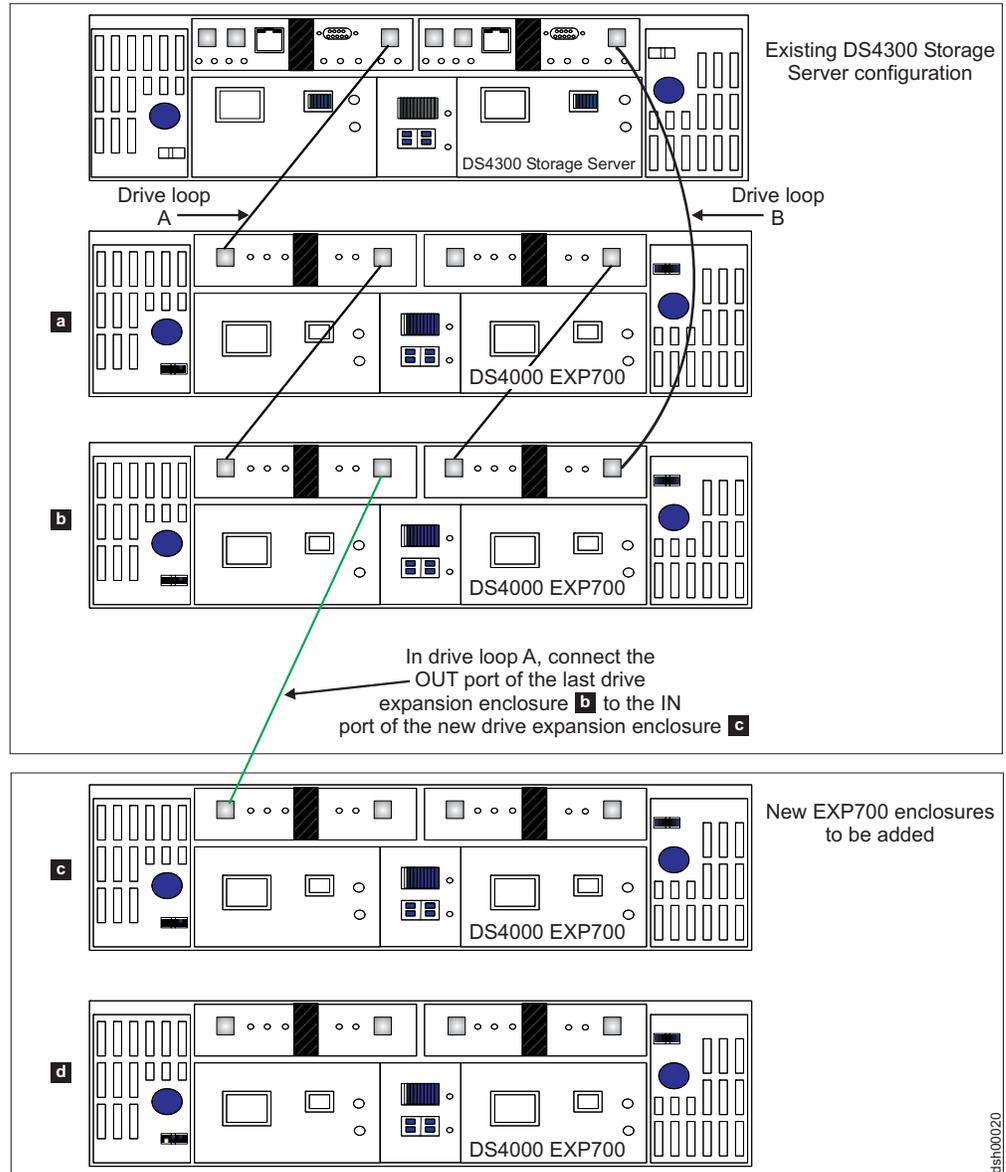
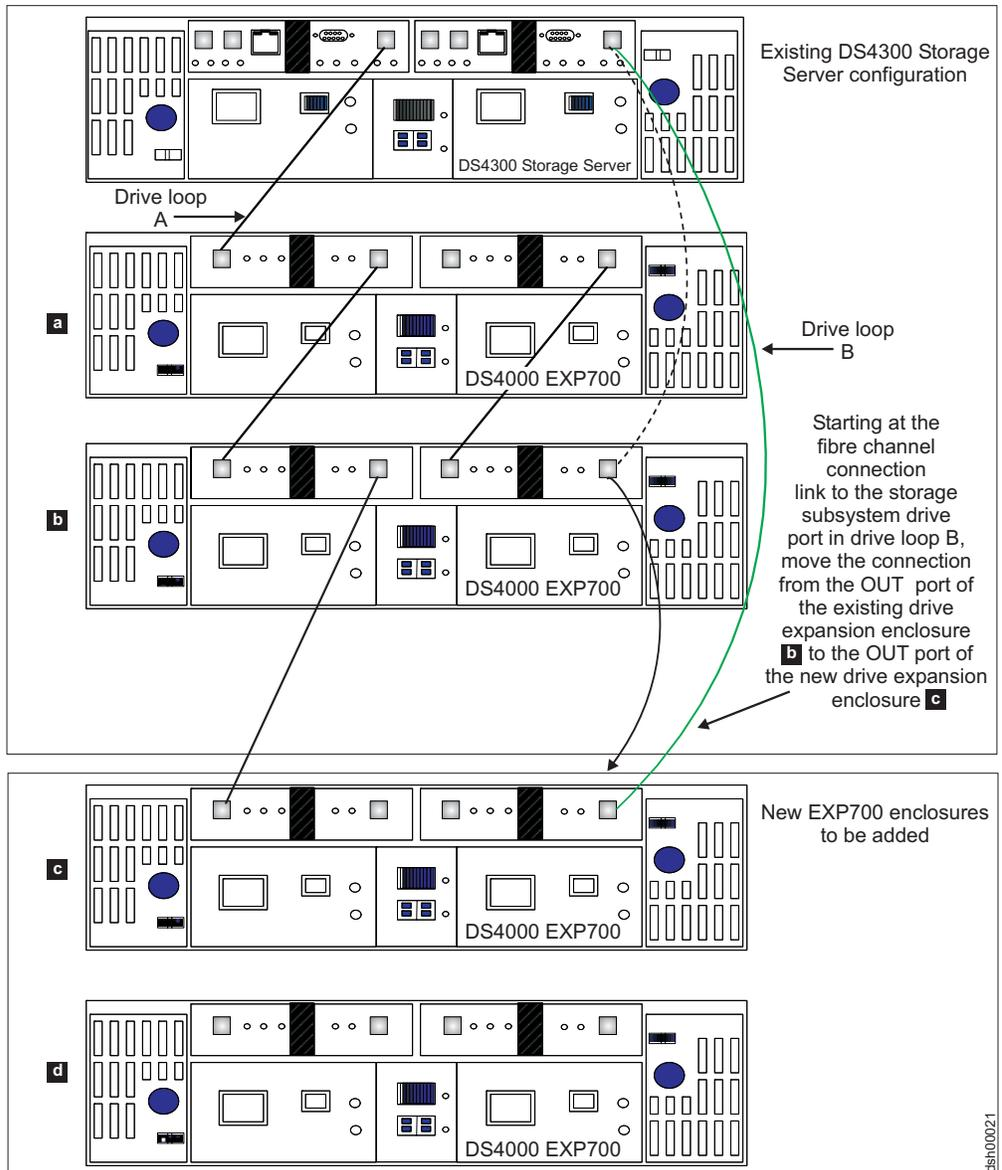
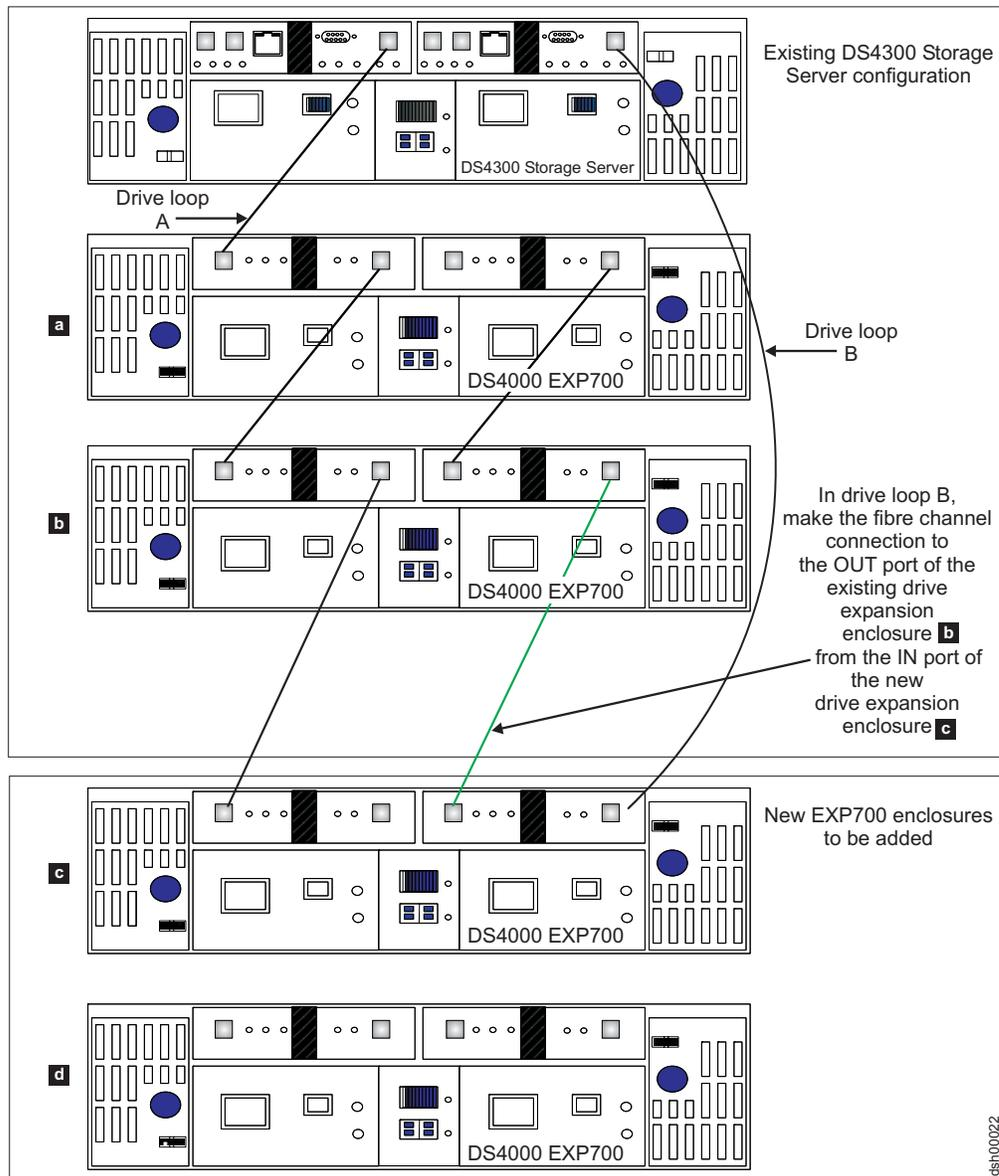

Figure 24. Cabling a single drive enclosure to the end of a functioning drive loop (step 1 of 3)
Figure 25. Cabling a single drive enclosure to the end of a functioning drive loop (step 2 of 3)
Figure 26. Cabling a single drive enclosure to the end of a functioning drive loop (step 3 of 3)
The cabling instructions illustrated in Figure 24 on page 77, Figure 25 on page 78, and Figure 26 on page 79 describe cabling a DS4000 EXP700 Storage Expansion Enclosure to the end (bottom) of a redundant drive loop of a functioning DS4300 Storage Subsystem (model 60X or 60U). IBM recommends that you add storage expansion enclosures to an existing drive loops only in this manner. See “DS4000 Storage Subsystem drive loop schemes” on page 29.
- \_\_\_ Step 2. Extend one of the drive loops (that is, drive loop A) in a DS4000 Storage Subsystem redundant drive loop pair by connecting the OUT port of the last storage expansion enclosure to the IN port of the new storage expansion enclosure as shown in Figure 24 on page 77.
- \_\_\_ Step 5. In the other drive loop (that is, drive loop B) in a DS4000 Storage Subsystem redundant drive loop pair, remove the connection from the DS4000 Storage Subsystem drive loop port to the OUT port of the last storage expansion enclosure and connect it to the OUT port of the new drive enclosure as shown in Figure 25 on page 78.
- \_\_\_ Step 7. In drive loop B, cable the new drive enclosure's IN port to the OUT port of the last enclosure in the already functioning storage expansion enclosure drive loop as shown in Figure 26 on page 79.